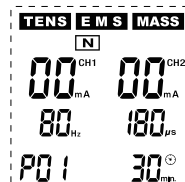

Fig. 10
- ⑮ **(N)**: Special programmes for the **neck** (see Fig. 10)